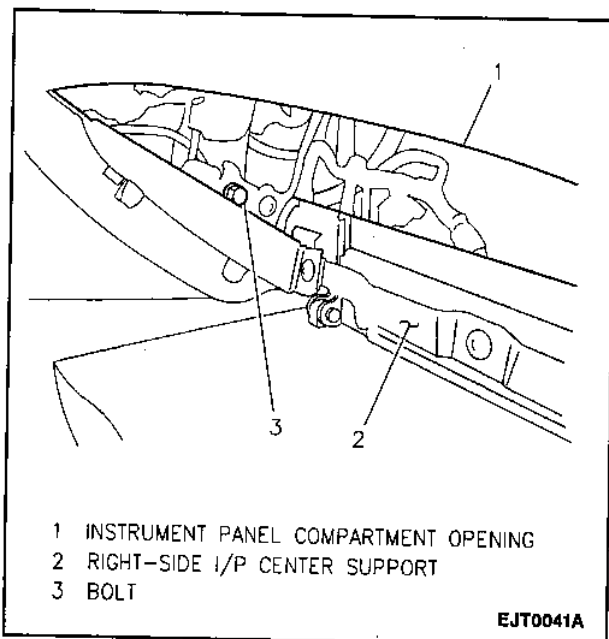

Figure 23—Right-Side Instrument Panel Center Support
Figures 23 through 26
8. Two bolts and right-side instrument panel center support (Figure 23).